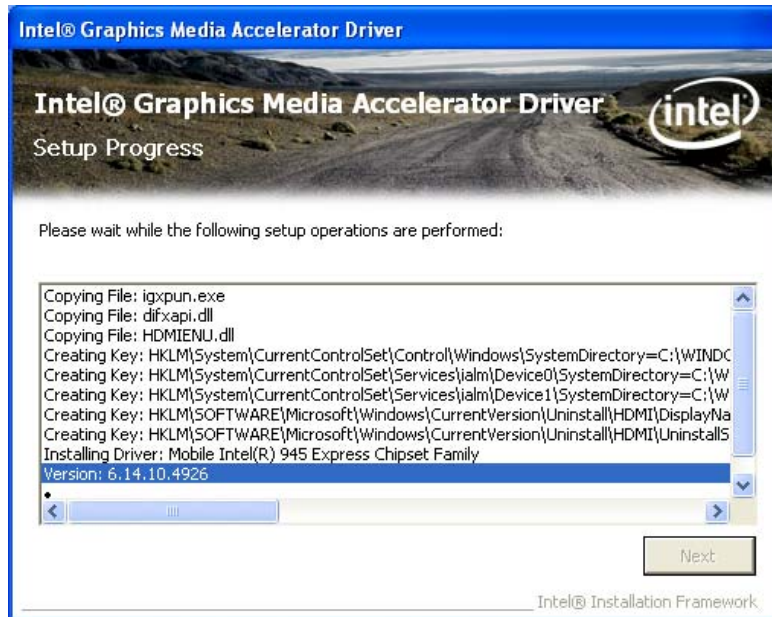

Figure 5-12: Graphics Driver Setup Operations
Step 14: Setup Operations are performed as shown in Figure 5-12.